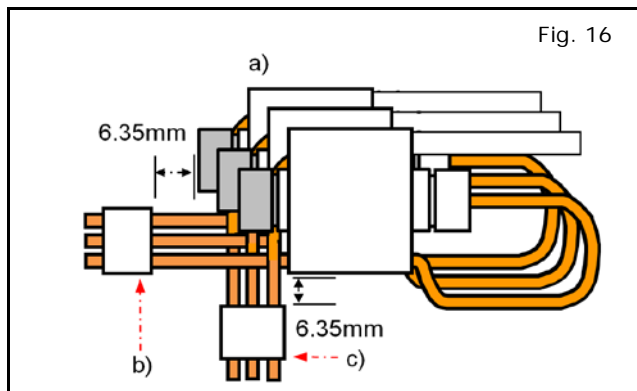

Fig. 16
- 17) Securing multiple accessory taps (Fig. 16).